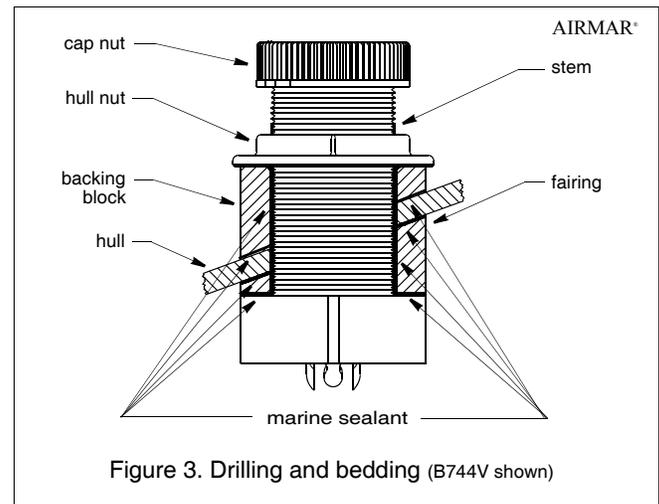
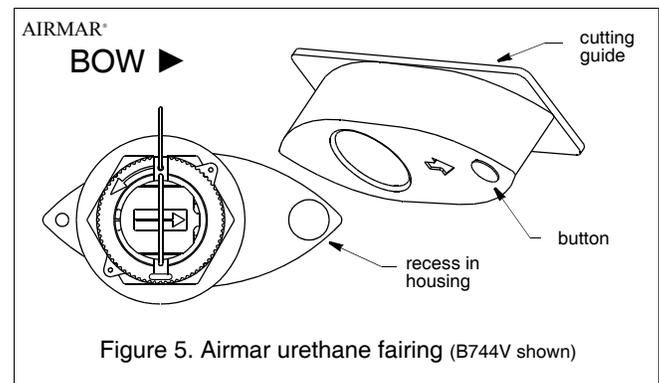

Figure 3. Drilling and bedding (B744V shown)
Figure 5. Airmar urethane fairing (B744V shown)
1. Drill a 3mm or 1/8" pilot hole perpendicular to the waterline from inside the hull (see Figure 3). If there is a rib, strut, or other hull irregularity near the selected mounting location, drill from the outside. If the pilot hole is drilled in the wrong location, drill a second hole in a better location. Apply masking tape to the outside of the hull over the incorrect hole and fill it with epoxy.
1. Apply a 2mm (1/16") thick layer of marine sealant over the surface of the multisensor housing that will contact the fairing (or hull if no fairing is used) and up the stem, 6mm (1/4") higher than the combined thickness of the fairing, hull, backing block, and hull nut (see Figure 3). This will ensure there is marine sealant in the threads to seal the hull and hold the hull nut securely in place.
2. Slide the fairing (if used) onto the stem and mate the button with the recess in the housing (see Figure 5).
3. Apply a 2mm (1/16") thick layer of marine sealant to the side of the fairing (if used) that will contact the hull (see Figure 3).
1. From outside the hull, push the stem of the multisensor housing (with the fairing in place if used) through the mounting hole using a twisting motion to squeeze out excess sealant (see Figure 3). If an Airmar fairing is used, be sure the button on the fairing is mated with the recess in the multisensor, the arrow on the fairing is pointing forward. **Take care to align the assembly parallel to the centerline of the boat** (see Figure 5).
2. From inside the hull, slide the backing block (if used), hull nut, and cap nut along the cable. Slide the backing block onto the stem and seat it firmly against the hull. Screw the hull nut in place. Tighten it with slip-joint pliers (see Figure 3).